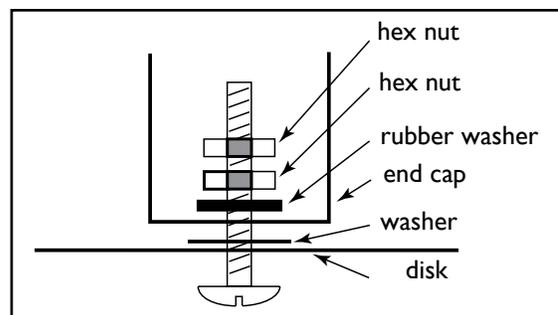

Figure 1: End cap
- Attach the plastic disk to a PVC end cap: Insert the screw through the hole. Put on the metal washer, the end cap, the rubber washer, and both hex nuts. Tighten the screw down and epoxy the outer hex nut to the screw so that it is permanently attached (Figure 1).